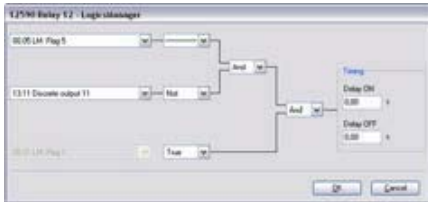

Fig. 191: LogicsManager function "Relay 12"
2. ➔ Configure the LogicsManager function "Relay 12" as shown in (Fig. 191).